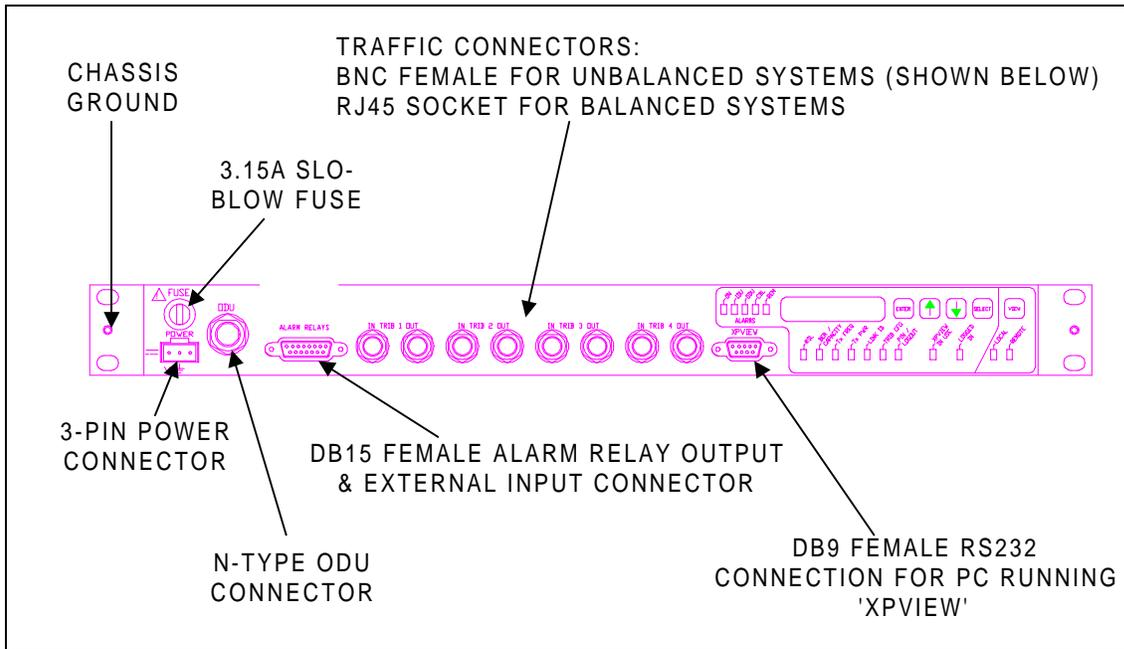

Figure 3-4. XP4 2x/4x IDU Connectors
- Step 2. a.) Lay in, secure with cable ties and terminate ground cable (at least 14 gauge wire recommended {1.5mm² conductor}) between IDU ground post and a nearby local grounding point. Refer to Figures 3-4, 3-5 and 3-8 for IDU ground post location.